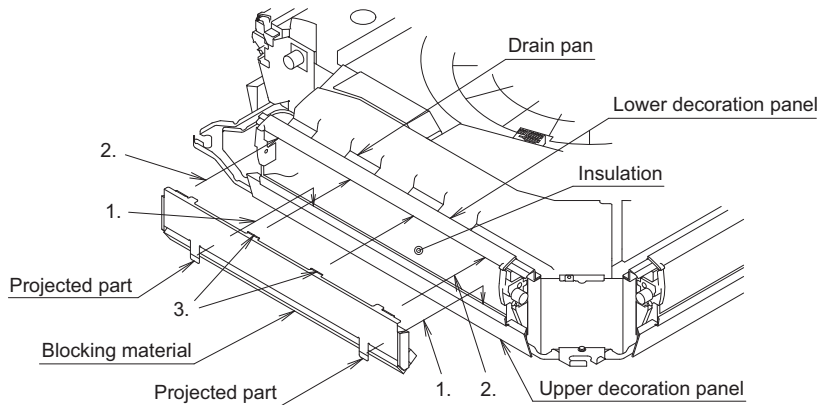
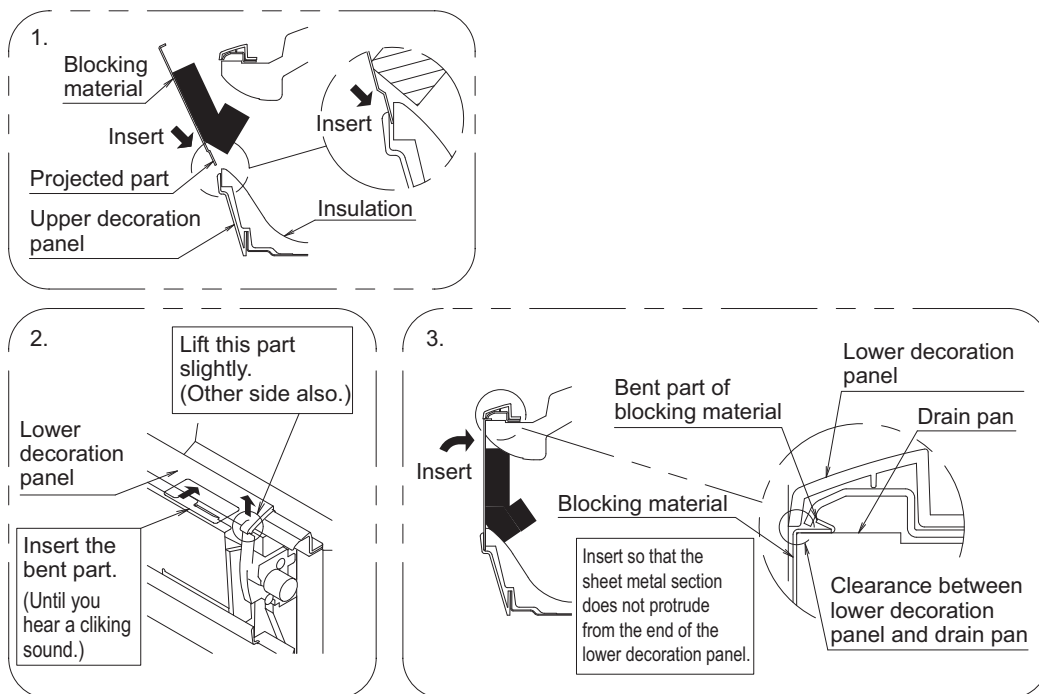

Fig. 12
Fig.13
(2) Fix the blocking material to the air outlet. (Refer to Fig. 12 and Fig. 13)